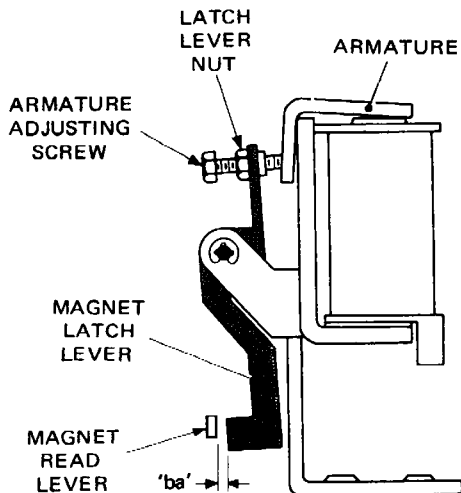

Fig. 4.56 MAGNET LATCH MECHANISM
- 63.1 Depress the magnet armature, Fig. 4.56, by hand and check that there is a clearance of 0.008–0.012 inch (dimension 'ba') between the magnet latch lever and the magnet read lever.